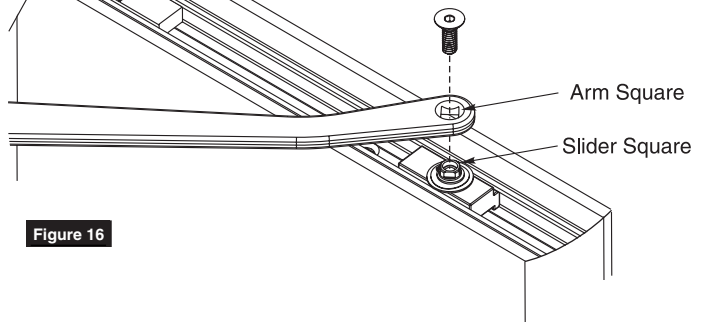

Figure 16
3. Align slider square with arm square and connect using 1/4-20 x 1/2" machine screw. (Figure 16)